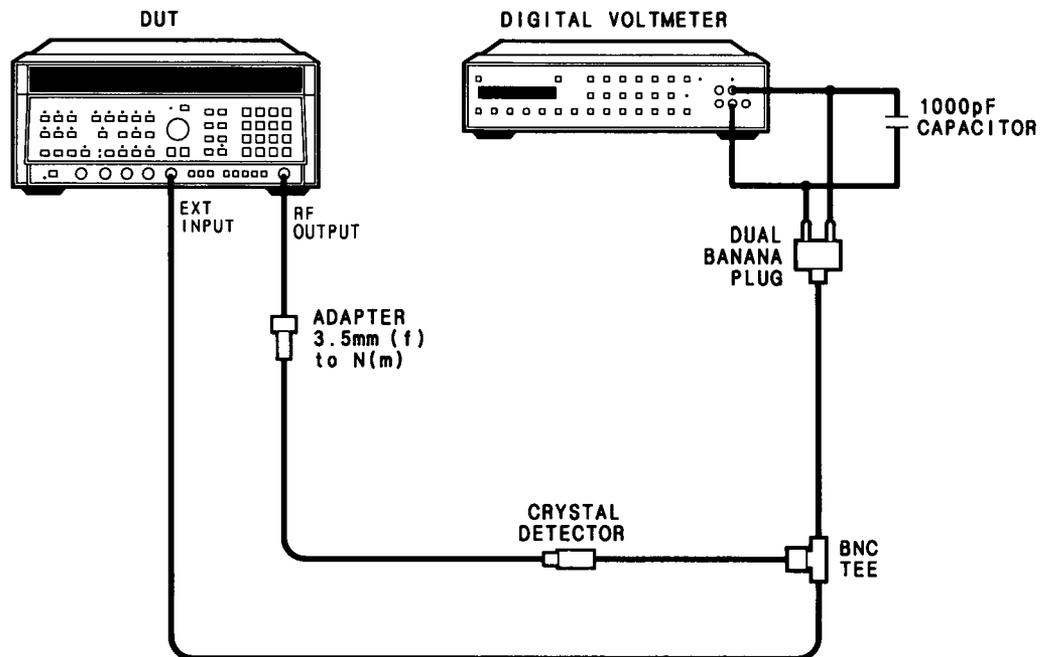

Figure 4-6. External Leveling Test Setup
2. Connect equipment as shown in Figure 4-6 (note 1000 pF capacitor shunting DVM input). Allow the equipment to warm up for one hour.